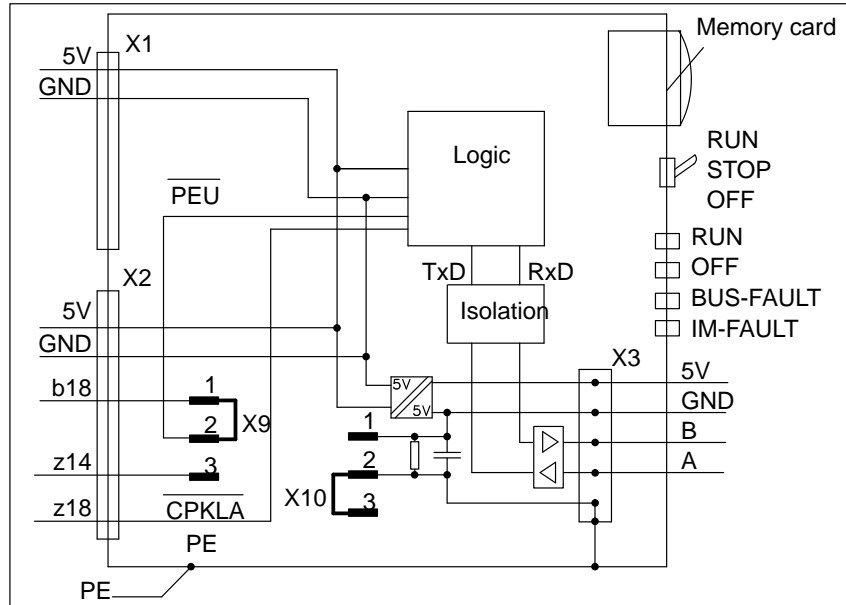

Figure 5-2 Block diagram of the IM 308-C
**Block diagram** Fig. 5-2 is a block diagram of the IM 308-C: